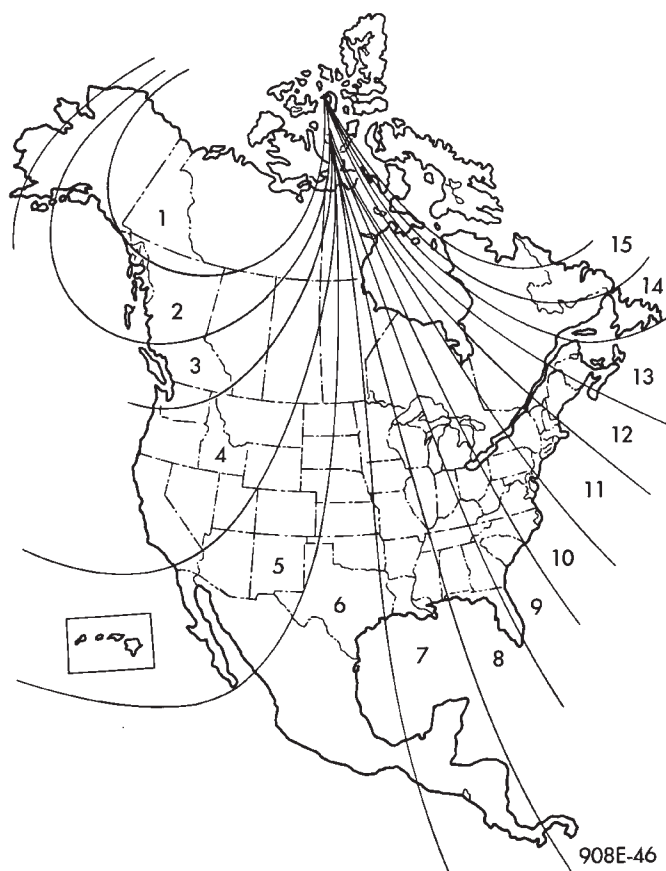

Fig. 1 Variance Settings
(1) Using the Variance Settings map, find your geographic location and note the zone number (Fig. 1).
(2) Turn the ignition switch to the On position. If the compass/temperature option is not being displayed, momentarily depress and release the Step button to step through the display options until you have reached the compass/temperature display.
(3) Depress both the U.S./Metric, and the Step buttons. Hold the buttons down until "VAR" appears in the display module. This takes about five seconds.
(4) Release both of the buttons. The zone number will appear in the display module.